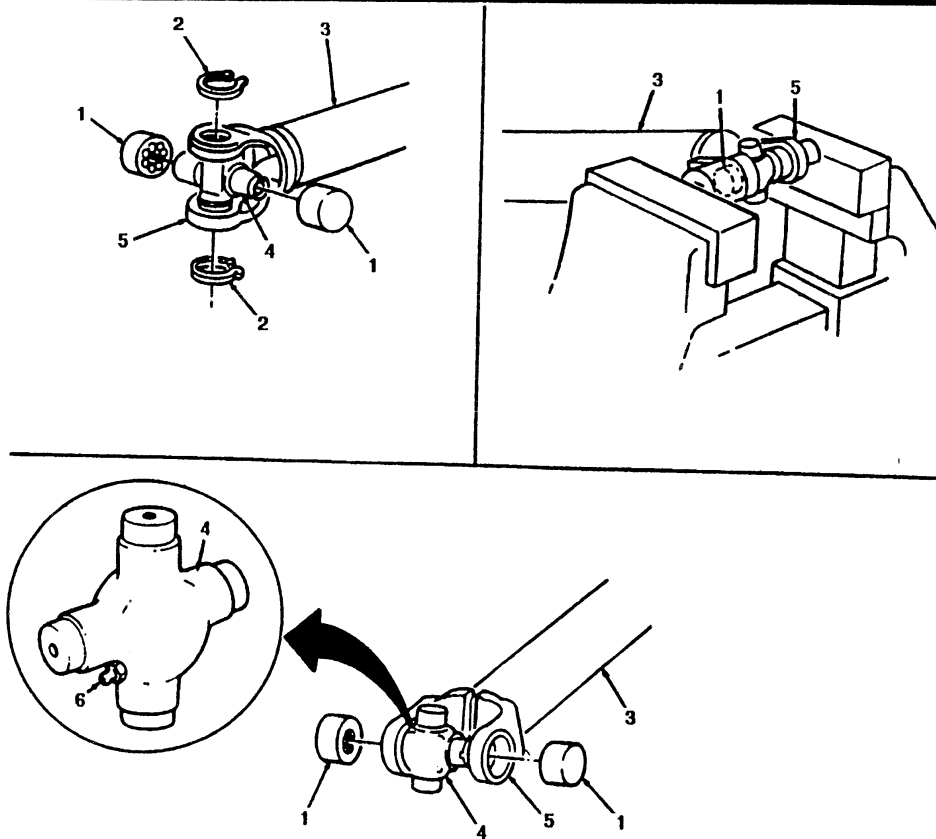

FIGURE 3-36
- (1) Remove grease fitting (6) from cross (4). (see figure 3-36)
- (2) Remove four bearing cups (1) from cross (4).
- (3) Remove four snap rings (2) from yoke (5).
- (4) Position intermediate steering shaft (3) in vise with 1-1/8" socket between vise jaw and bearing cup (1) being removed. Ensure open end of socket is facing bearing cup (1).
- (5) Place 11/16" socket between opposite bearing cup (1) and visejaw. Ensure open end of socket is facing vise jaw.
- (6) Press bearing cup (1) out of yoke (5) and remove bearing cup (1) from cross (4).
- (7) Reverse position of sockets and press remaining bearing cup (1) out of yoke (5).
- (8) Remove cross (4) from yoke (5).
- (1) Install cross (4) into yoke (5). (see figure 3-36)
- (2) Install bearing cup (1) into yoke (5).
- (3) Place yoke (5) in vise with 11/16" socket between vise jaw and bearing cup (1). (see figure 3-36)
- (4) Press bearing cup (1) into yoke (5) far enough to install snap ring (2), and install snap ring (2) into yoke (5).
- (5) Install bearing cup (1) into yoke (5).
- (6) Place yoke (5) in vise with 11/16" socket between bearing cup (1) and vise jaw.
- (7) Press bearing cup (1) into yoke (5) far enough to install snap ring (2), and install snap ring (2) into yoke (5).
- (8) Install four bearing cups (1) on cross (4).
- (9) Install grease fitting (6) into cross (4).